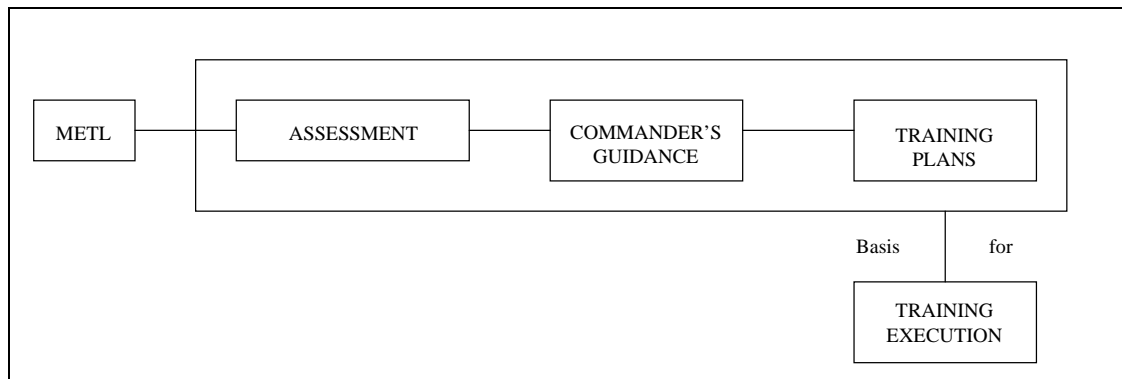
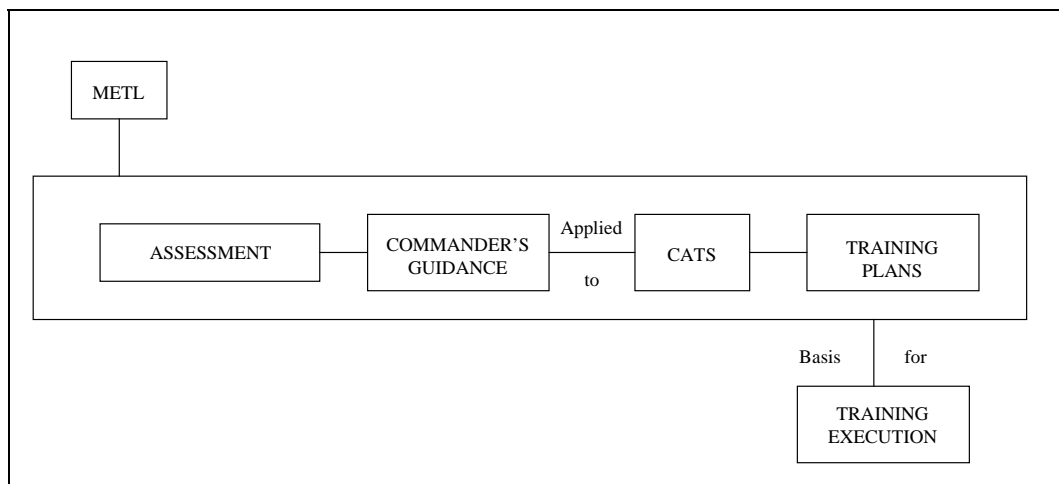

Figure A-1. Training Planning Process
Figure A-2. Training Planning Process (CATS)
A-2. UNIT TRAINING. FM 25-101 describes a three-step process based on the unit METL and ending in training execution. Figure A-1 is a graphic representation of the process.
c. The information in this paragraph explains the terms listed in Figure A-1. For information on the training planning process, see FM 25-101.
(1) Mission Essential Task List is an unconstrained, unprioritized statement of the tasks required to complete the wartime mission. It is a source of training planning activities.
(2) Assessment is the beginning of the training planning process. It is the commander's evaluation of the unit's training level on the METL.
(3) Commander's Guidance consists of long-range planning calendars CTG issued to the detachment from COSCOM. It serves to focus the training efforts of the unit in accordance with the COSCOM commander's priorities. The COSCOM, in turn, issues CTG for the detachment.
(4) Training Plans are a collection of schedules and other supporting documents that carry out the commander's guidance.
(5) Training Execution is the actual performance of the training schedule in the training plans portion of the training planning process.
d. The information in this paragraph explains how to apply CATS to the training process. Figure A-2 is a graphic representation of the process.
(1) The commander determines the exact events and tasks to be trained based on his METL and guidance from higher headquarters.